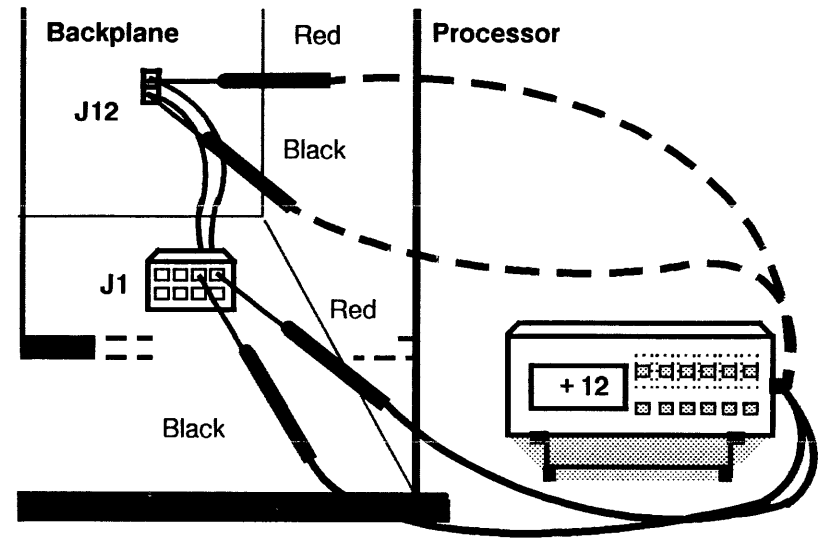

Figure 3. Fan Connector and Backplane
- c. Reach in through the Rigid Disk Drive cavity and connect the meter leads to the backplane connector (J12) to check for +11.83 to +12.57 VDC (Figure 3). If no voltage is read, call for assistance. If the reading is good, then make the check at the fan assembly connector (J1).